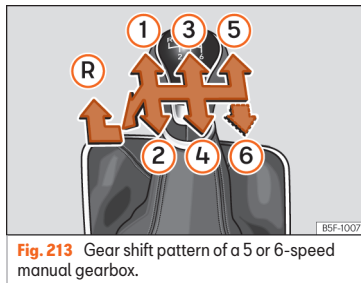

Fig. 213 Gear shift pattern of a 5 or 6-speed manual gearbox.
The position of the gears is indicated on the gearbox lever »» Fig. 213.
- With the gearbox lever in neutral, push it downwards, move it to the left as far as it will go and then forwards to select reverse »» Fig. 213 .